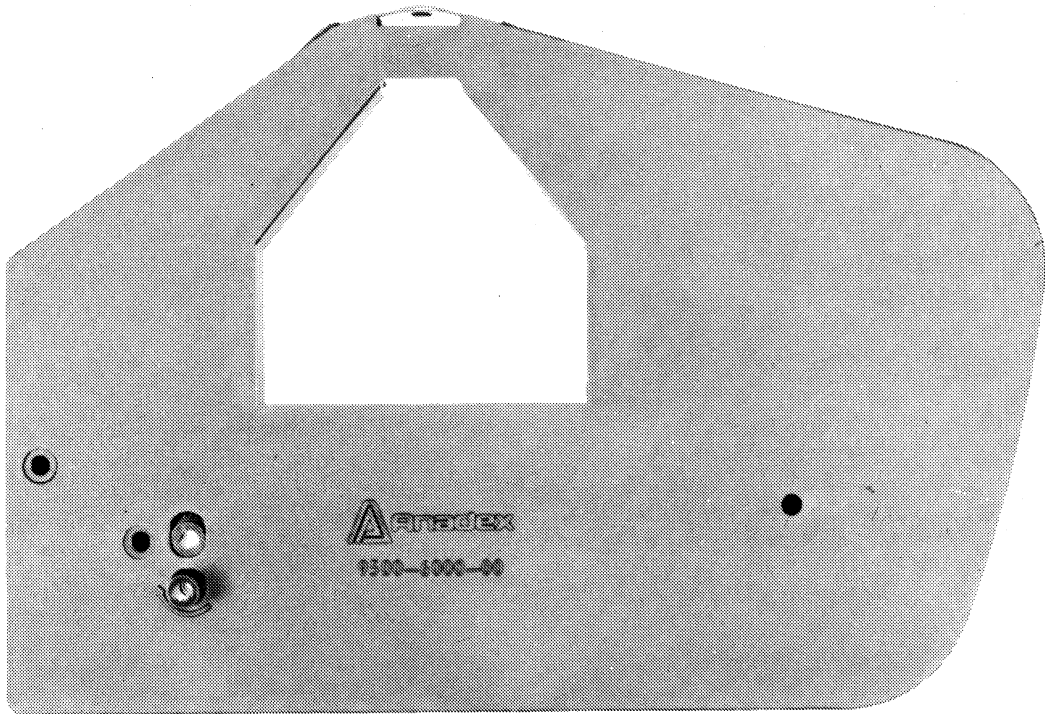

FIGURE 2-2 RIBBON CARTRIDGE
5. Verify that the ribbon is taut and smooth in the print head window of the cartridge. Slight creases from folding in the Mobius loop inside the cartridge are normal. If necessary, rotate the manual ribbon feed knob in the direction of the arrow. (See Figure 2-2).